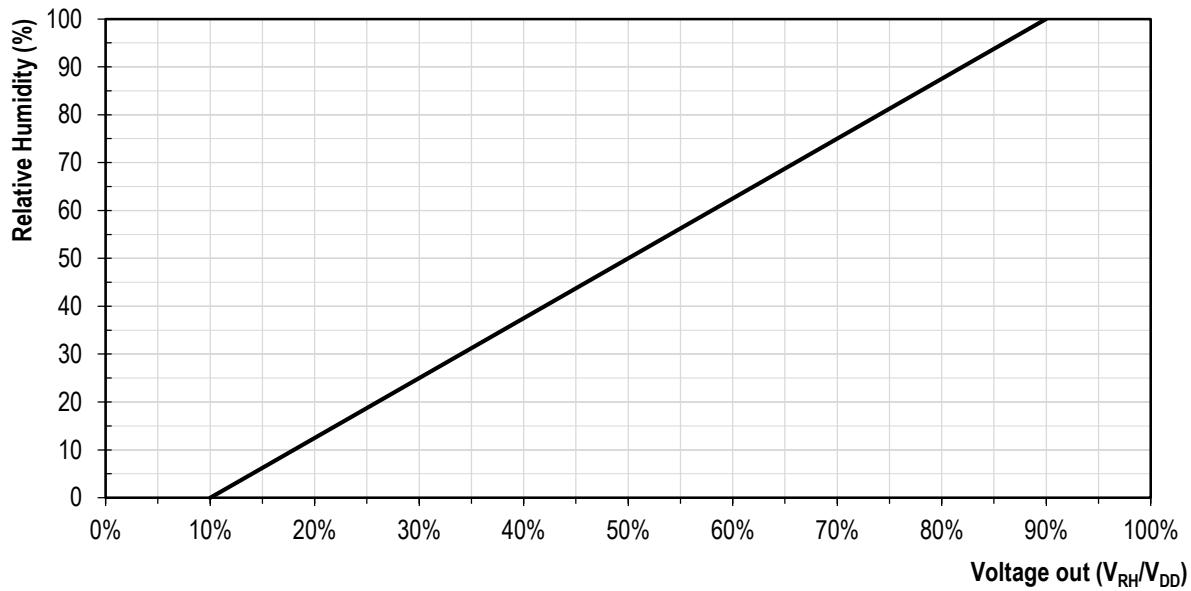
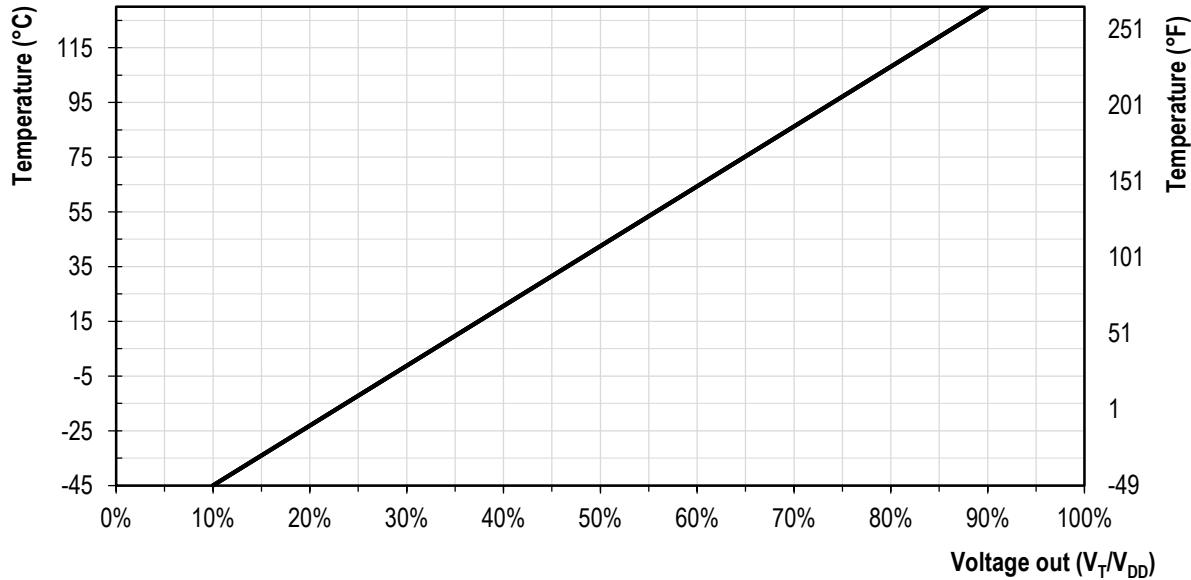

Figure 9 Relationship between the ratiometric analog voltage output and the measured relative humidity.
Figure 10 Relationship between the ratiometric analog voltage output and the measured temperature
This allows to describe the relationship between physical values (RH and T) and the voltage output for temperature and humidity ( $V_x$ ,  $x=T, RH$ ) through a generic linear formula given by equations (1), (2) and (3); its graphical representation can be found in Figure 9 & Figure 10.